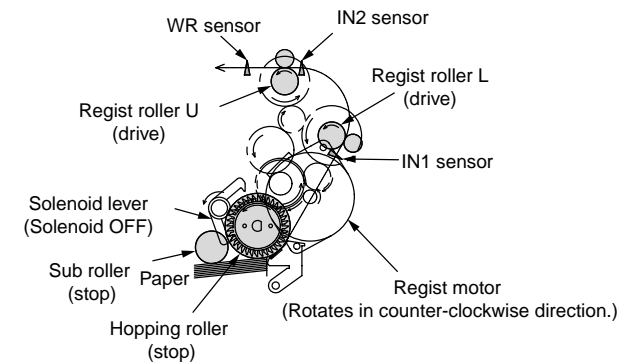

Fig. 2-2
3. As shown in Fig. 2-2, the solenoid is turned OFF so that paper is transported by the regist roller L. (When the solenoid is turned OFF, the regist roller L is driven.)